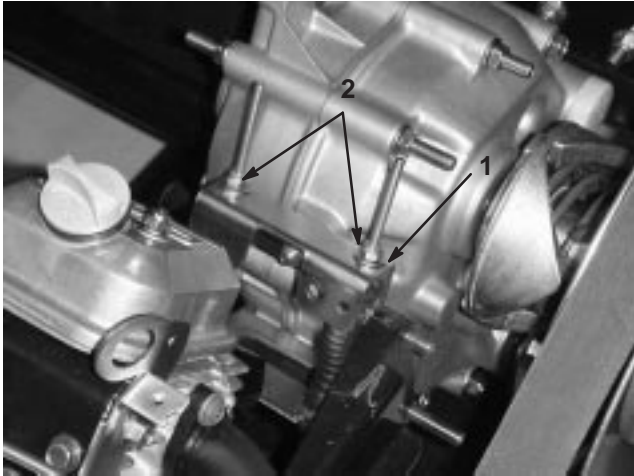

Figure 18
When performing routine maintenance and/or engine diagnostics, the transaxle must be shifted into neutral (Fig. 18). The vehicle has a neutral position on the shift lever, which controls the neutral in the transaxle. The following steps should be taken to make sure that the neutral shift lever operates the transaxle neutral correctly:
2. Set the neutral bracket on the transaxle to the neutral position (level), turn the drive clutch, and check to see if the vehicle rolls back and forth (Fig. 18).
3. Tighten one of the locknuts (Fig. 18) just enough to take the slack out of the shift cable.